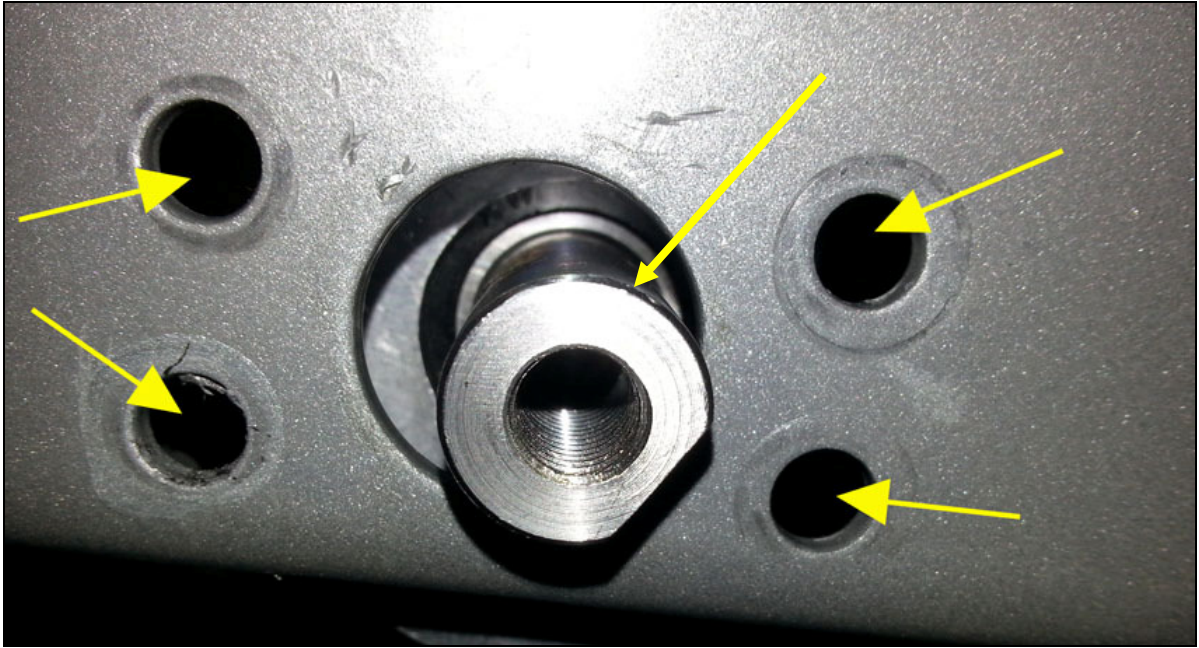

Fig. 7
8. After removing the shaft from the unit, insert the new shaft PN: 723-0274-KT with the side that has the D shape facing out on user right side. (Fig. 7)